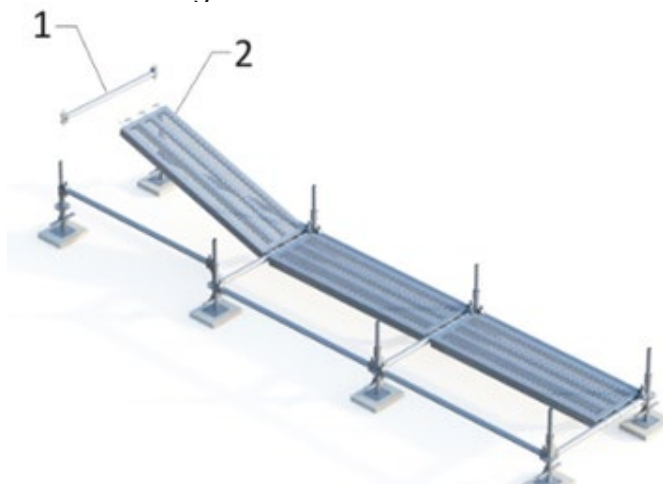
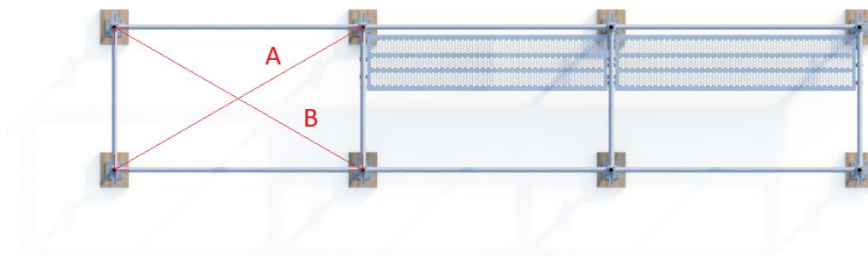

Figure 15 - Scaffold Base
Figure 16 - Scaffold Base squaring with planks
- 4.1.2. Place the ledgers (1) into the rosettes of the base collars like shown in Figure 15. To properly square the scaffold bay, use a tape measure to measure diagonally from one corner to the opposite corner (kitty-corner), ensuring accuracy in both directions A & B as in Figure 16.